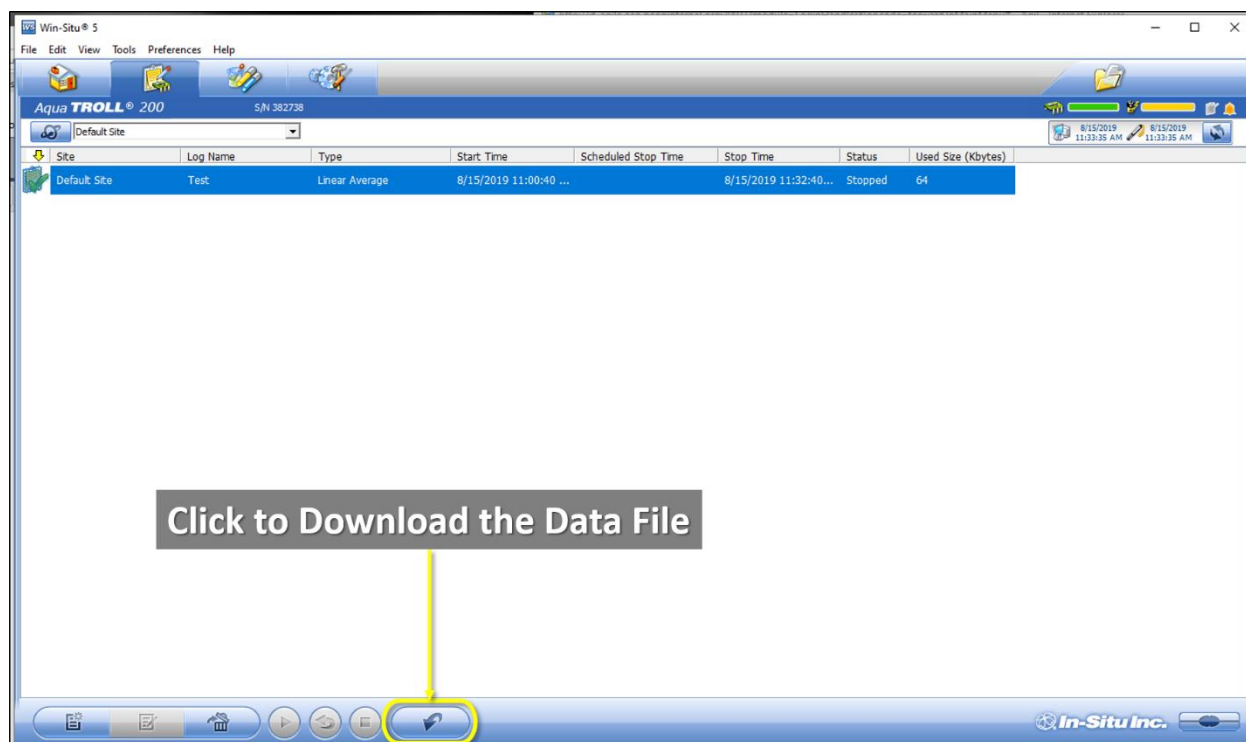

Figure 25. Select the Log file and then the Downward Pointed Arrow to Download the Log File Data
1. To download data from a TROLL to a NEON program laptop, select the log file and then select the downward pointed arrow from the bottom banner of the screen (Figure 25).